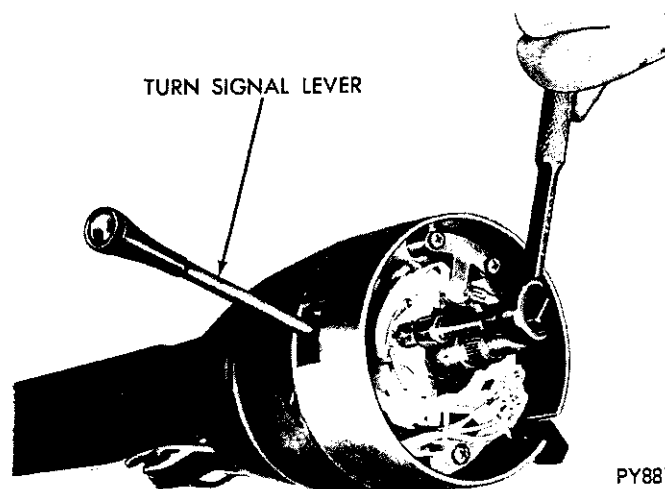

Fig. 3—Turn Signal Lever
(1) Disconnect negative (ground) cable from battery.
(2) Disconnect linkage from lower end of steering column.
(3) Remove steering shaft lower coupling to wormshaft roll pin.
(4) Disconnect wiring connectors at steering column jacket.
(5) Remove horn ring ornament assembly.
(6) Disconnect wire at horn switch. Remove screws attaching horn ring and switch to steering wheel, then remove horn ring and switch.
(7) Dart models: remove steering wheel retaining nut and washer. Remove steering wheel with Tool C-3428A. Do not bump or hammer on steering shaft to remove wheel. Challenger models: remove three nuts fastening steering wheel to corrugated cylinder, remove nut and washer from steering shaft and install tool C-3428A to pull cylinder from shaft splines.
(8) Remove turn signal lever (Fig. 3).
(9) Remove floor plate to floor pan attaching screws. Remove finish plate from under instrument panel to expose steering column bracket.
(10) Remove nuts or bolts attaching steering col-